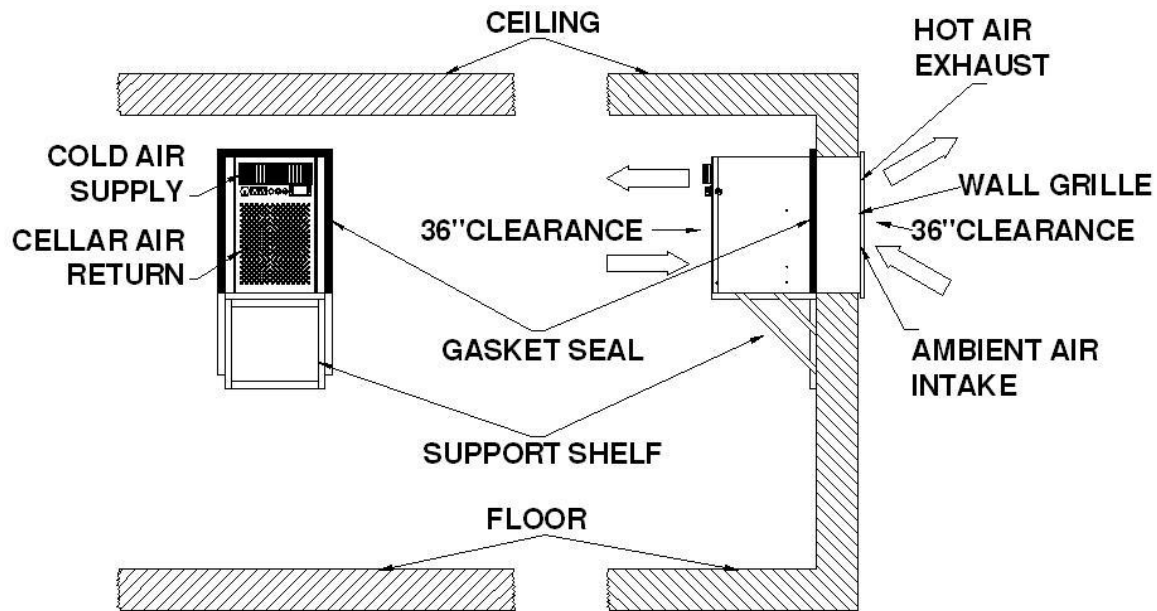

Fig. 4.2 Flush to the outside of wall with exterior wall grille
2. WM-4510 through-wall with free-blow installation (Fig 4.2 & 4.3)